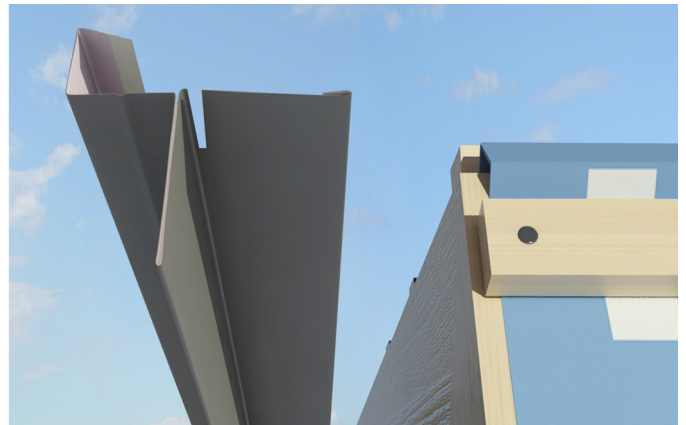

Fig.7.
2. Cut away a slot 30mm x 5mm behind the down leg (Fig.7).